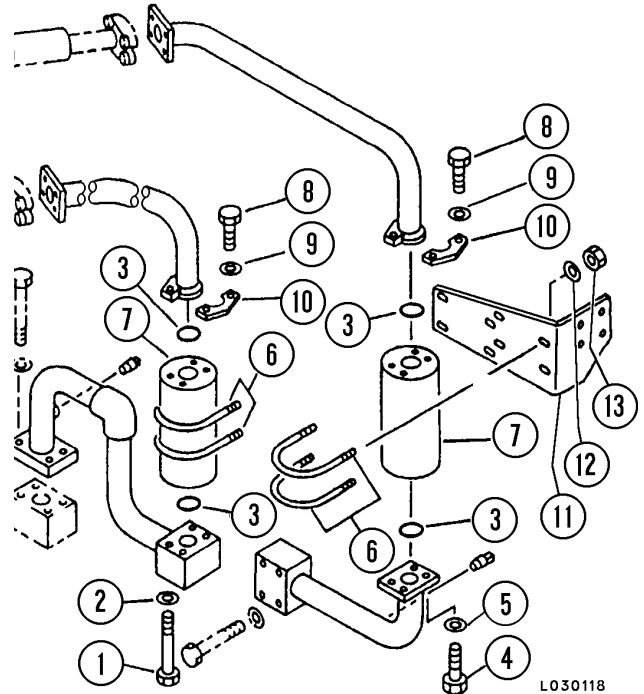

FIGURE 40-6. HIGH PRESSURE FILTERS &
4. Remove capscrews (1, 4, & 8, Figure 40-6), washers (2, 5, & 9), and split flanges (10) securing filters (7).
5. Remove nuts (13) and washers (12) holding U-bolts (6) to bracket (11). Remove filter assemblies (7). Discard O-rings (3).
1. Remove plugs and/or covers from connections. Install new O-rings (3, Figure 40-Figure 40-6) in all locations. Install filter assemblies (7) to outlets and install capscrews (1 & 4), washers (2 & 5). Do not tighten capscrews to final torque at this time.
2. Move hydraulic tubes to filter housings inlets and reconnect with capscrews (8), washers (9), and split flanges (10). Do not tighten capscrews to final torque at this time.
3. Install U-bolts (6) holding filter assemblies (7) to bracket (11). Install washers (12) and nuts (13). Do not tighten nuts to final torque at this time.